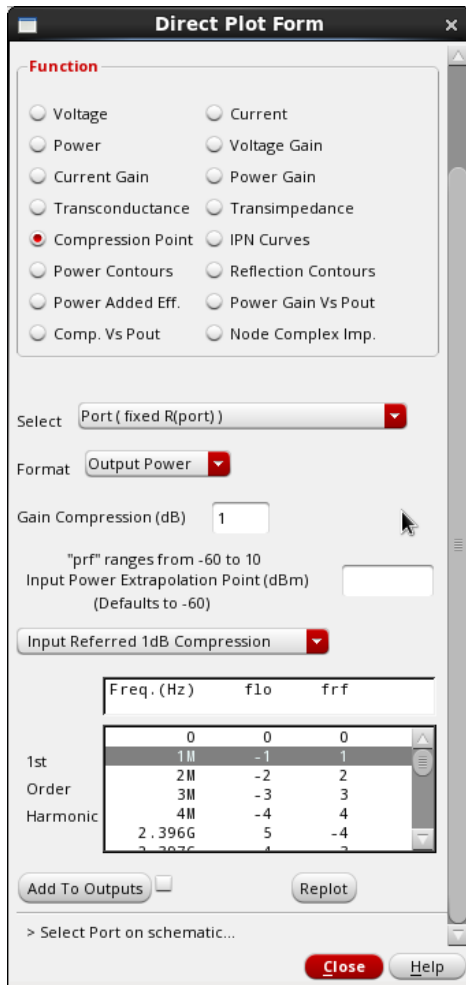

Fig. 17
- Plot 1dB compression point from Results/Direct Plot/Main Form/QPSS, select the options as shown in Fig. 17 and click on the output port.